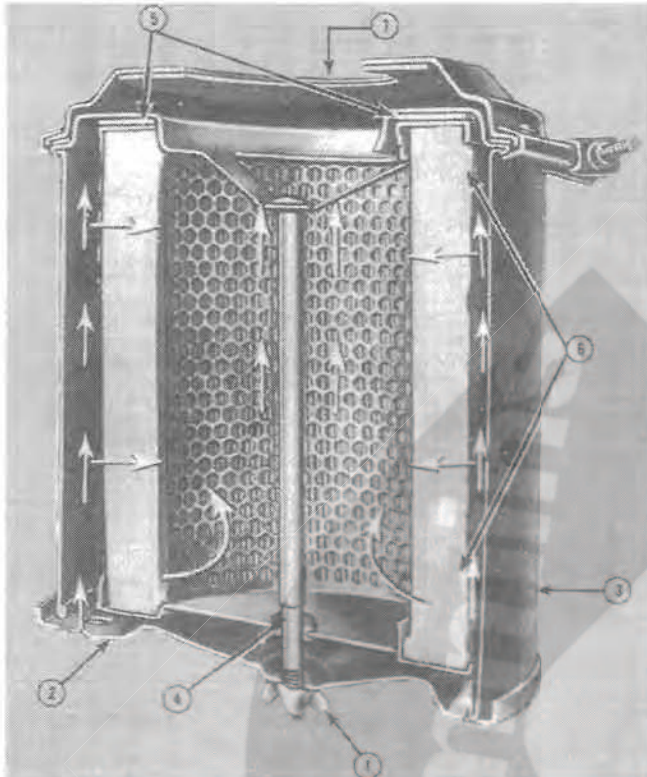

Fig. 2-7, (OM1028L). Air cleaner—dry type
1. Loosen the wing nut (1, Fig. 2-7) securing the bottom cover (2) to the cleaner housing (3). Remove the cover.